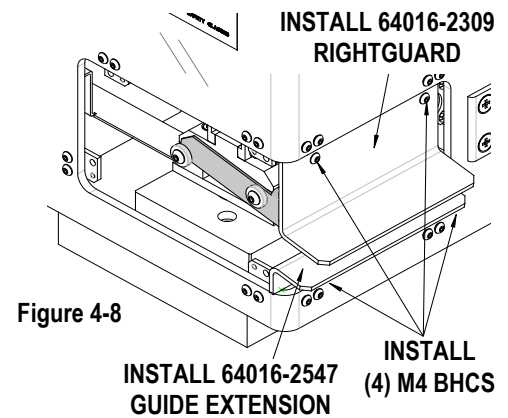

Figure 4-8
3. Install the Right Guard (Order number 64016-2309) using the threaded holes in the top mounted brackets with (2) M4 BHCS. See Figure 4-8.
4. Install the Guide Extension (Order number 64016-2547) using the threaded holes in the bottom mounted brackets with (2) M4 BHCS. See Figure 4-8.